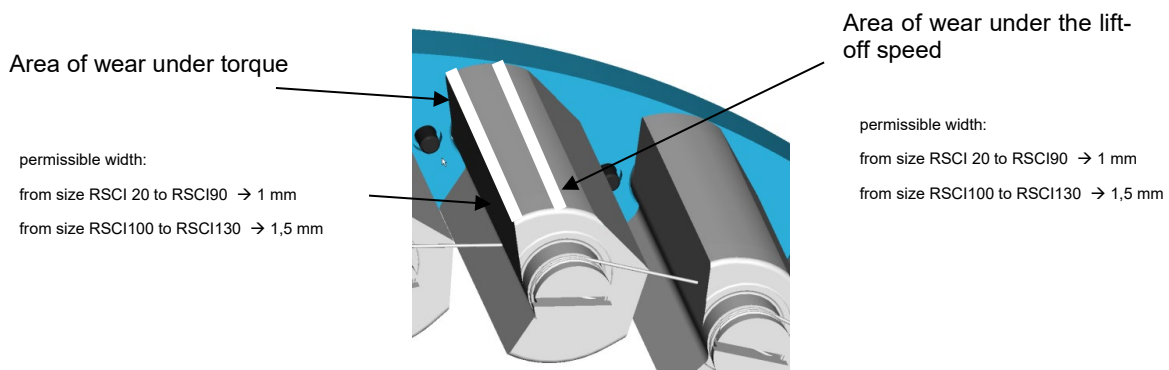

Figure 8: wear zones
- Pre-clean the outer race (1), inner race and cage (8) with a petroleum-based industrial cleaning agent and degrease with an acetone-based cleaning agent.
- Maximum width of the wear facet on the clamp bodies (see Figure 8)